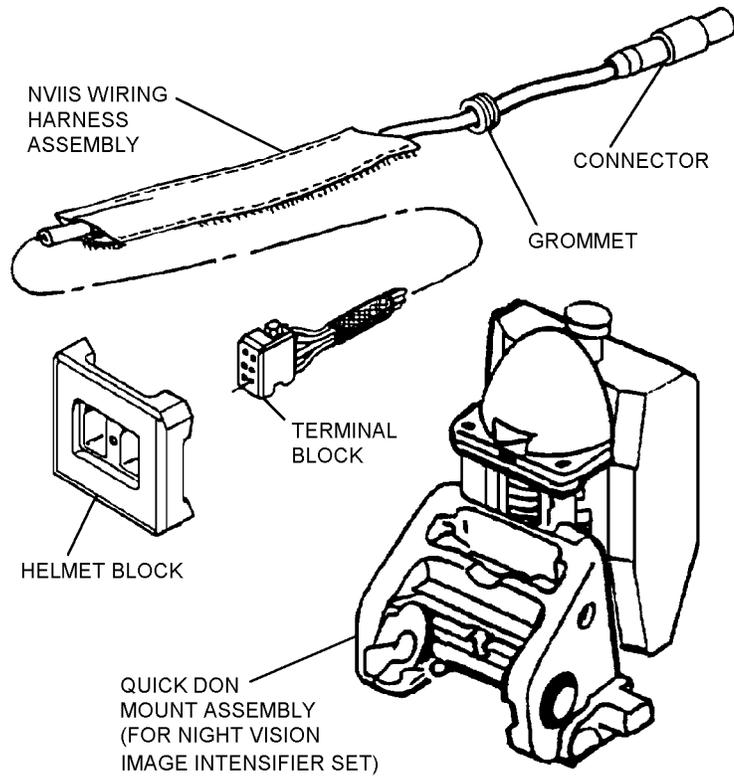

Figure 3-8. NVIIS Components
3-12. NVIS System Components. The NVIS components in figure 3-8 must be procured separately. System components include the AN/AVS-9(R) Night Vision Image Intensifier Set (NVIIS), Battery Compartment P/N 300680-G2/G3 or Low Profile Battery Compartment P/N 268465, NVIS Quick Don Mount Assembly (built-up from kit P/N 93B8601 and components removed from mount assembly P/N 5002530) and internal wiring harness P/N 3151AS135-1. Using the quick don mount assembly the AN/AVS-9(R) NVIS easily attach to the installed helmet-mounting block on the brow of the helmet. The terminal